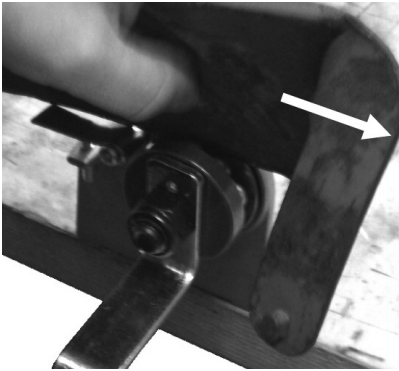
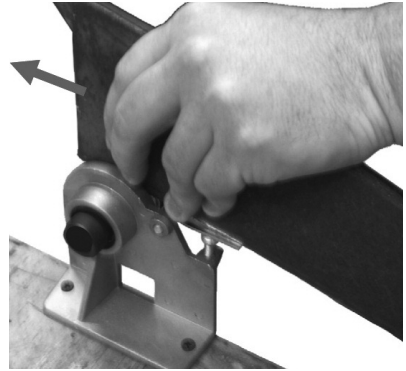

Fig. 1
Fig. 2
1. Insert the scythe into the denger as shown in Fig. 1 and Fig. 2. The blade of the scythe must be slightly tilted in the guide groove (9).
3. Turn the crank (8) quickly to the right.